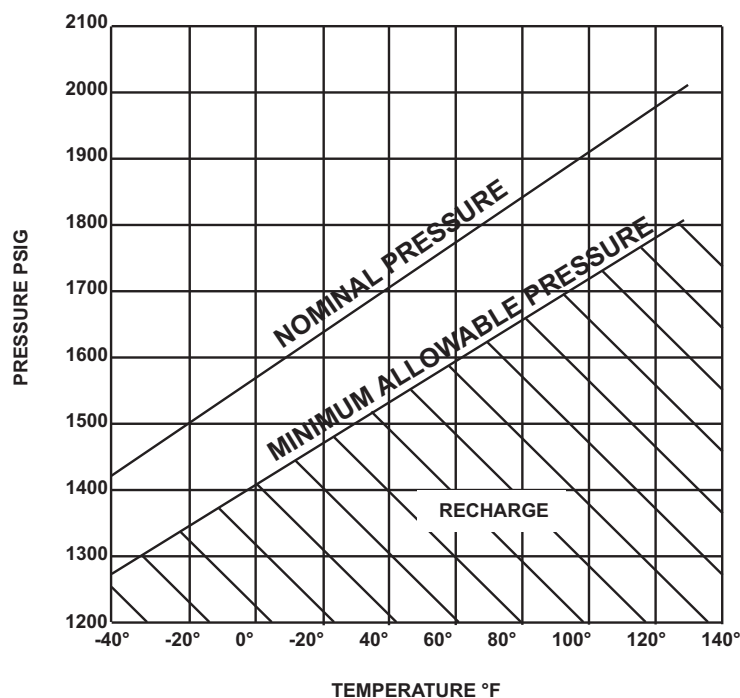

Figure 6-7. Nitrogen Temperature vs. Pressure Data
7. Open the valve and add additional nitrogen as necessary to obtain a full cylinder charge at ambient temperature (1800 PSIG at 70°F [124 bar gauge at 21°C]). Refer to Figure 6-7.